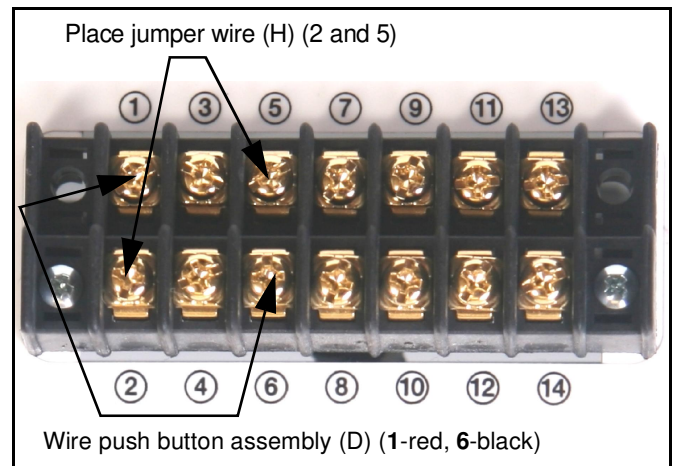

Figure 3
5. Place the jumper wire (H) on the external wiring terminal contacts labeled 2 and 5, and wire the push button
assembly (D) to contacts **1 (red)** and **6 (black)**. (See Figure 3).
1. Unplug the SL151i's test power cord (J) (used for testing).
2. Remove the jumper wire and supplied push button wiring (previously installed in the **Pre-Test Lift before Installation** section) from the external terminal block. (See Figure 3)